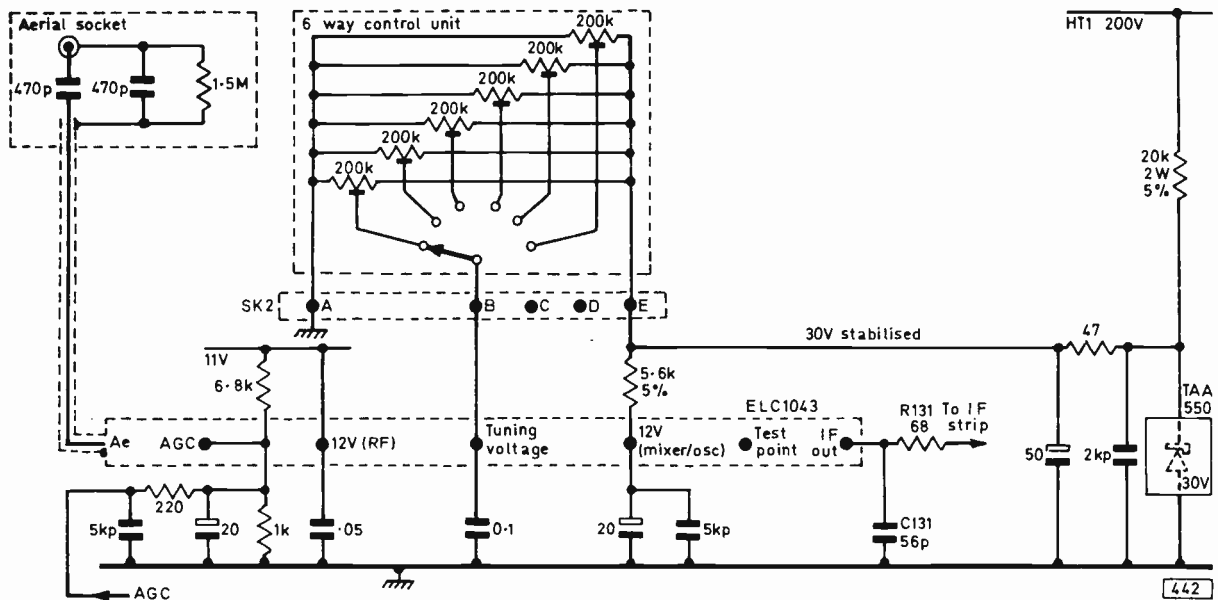

Fig. 4: The circuitry used with the ELC1043 varicap tuner in the Pye 769 chassis.
Figure 4 shows how the tuner is connected in circuit in a modern single-standard chassis, the Pye 769. The connections are as follows.
i.F. Output. This can be fed by coaxial cable to the normal point in the receiver, i.e. the i.f. strip input or the 625 injection point on the v.h.f. tuner. Since this point is at h.t. potential in some valve circuits a 1,000pF series isolating capacitor should always be used if in doubt. It is prudent to keep the i.f. output lead short relative to a quarter wavelength at 37MHz, i.e. less than 2ft. This length adds about 40pF to the i.f. output loading. The i.f. output tuning coil is accessible at one end of the tuner (opposite end to the aerial input) and may require careful trimming with a non-metallic screwdriver for optimum resolution of the test card gratings. If the core has to go all the way in extra capacitance such as C131 in Fig. 4 is needed. For proper i.f. alignment a test point for connecting a
12V Supply to R.F. Stage. Since the current drawn here varies greatly with a.g.c. it should not be taken from the tuning supply otherwise the tuning will be affected by a.g.c. variations. If the receiver has a 12V rail as in Fig. 4 this can be used: a decoupling capacitor must be connected at the tuner. Alternatively a 12V supply can be derived from the valve h.t. line (200V approximately) by means of a 12V 400mW zener diode, 8.2kΩ 5W resistor and 20μF and 0.1μF parallel decouplers (see Fig. 8 later). Further possibilities include extracting 12V from across the cathode decoupling capacitors of the audio or field output valves.
The recommended tuning voltage source is 28-30V from a Mullard TAA550 stabilizer as shown in Fig. 4. This is a special purpose i.c. which acts as a high-performance zener diode. For monochrome television where ultimate tuning stability is not essential an ordinary 30V 400mW zener is adequate and cheaper. This can be fed with a constant 8mA
The installation of the tuning controls can be contrived to suit particular receivers. An interesting bracket has however been developed by Manor Supplies. This allows the channel selection switch and tuning potentiometers shown in Fig. 7(f) to be mounted sufficiently closely to fit control panel holes intended for conventional pushbutton tuners. The controls (see photograph) are stagger-mounted on a two-piece bracket which can be adjusted slightly to fit different panel hole spacings. By using this bracket sets such as those in the Bush TV125 series can be very easily converted to varicap 625 tuning. A kit is available consisting of the bracket, most of the components in Fig. 4 (a 30V zener diode is supplied in place of the TAA550) and 7(f) and four slim-style knobs